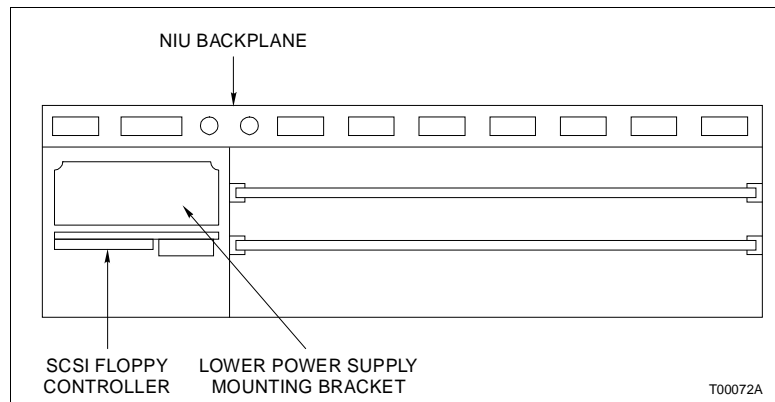

Figure PR62-2. Lower Power Supply
- 6. Slowly pull the lower power supply mounting bracket out of the NIU card cage (Fig. PR62-2), labelling and disconnecting all cables from the lower power supply and the SCSI floppy controller (if supplied) while doing so.